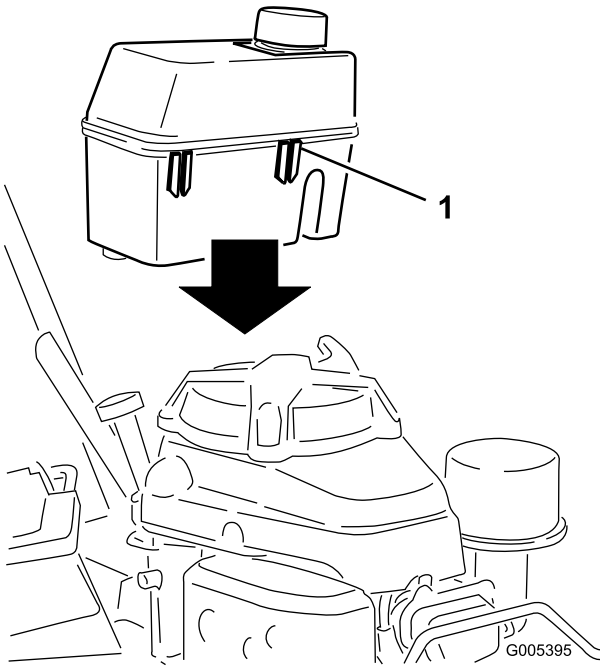

Figure 6
3. Slide the plastic clips on the front of the fuel tank onto the fuel tank mount (Figure 6).